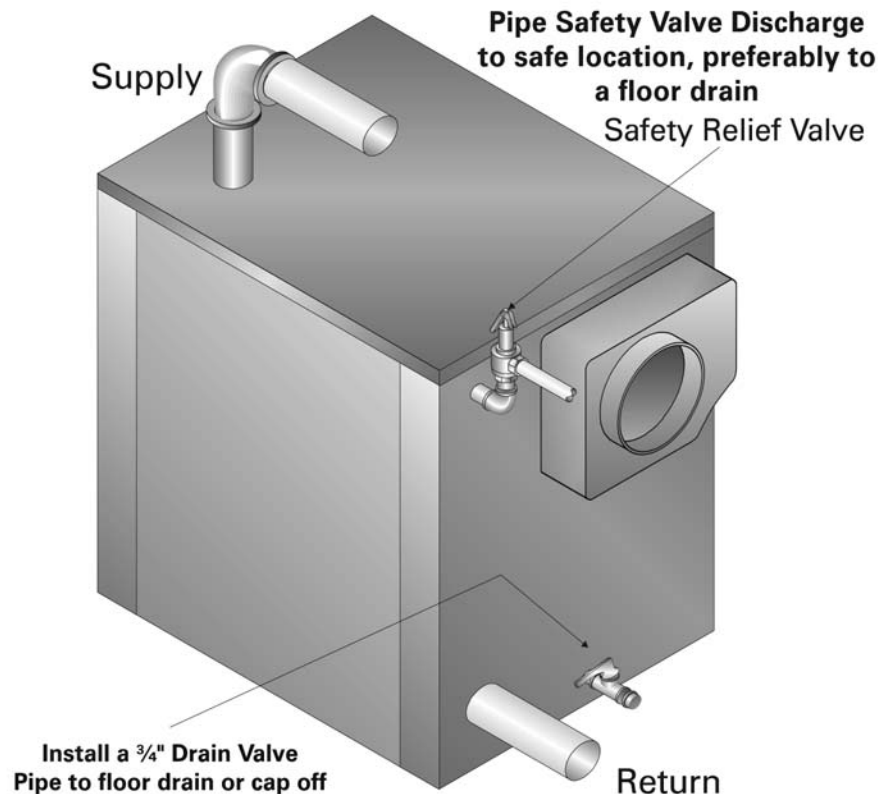

Figure 8.1: Safety Relief Valve Piping
1. Pipe the Safety Relief Valve off of the 2-1/2" tapping at the upper left side of the Rear Section. Make sure the relief valve sizing meets local code requirements. See Figure 8.1.
1. Install a 3/4" drain valve in the lower center tapping in the Rear Section. See Figure 8.1 and Figure 8.2.